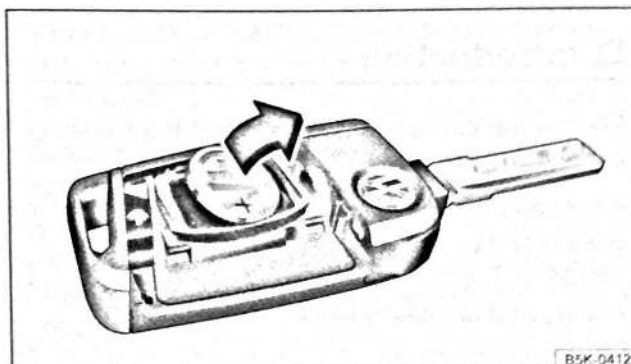

Fig. 26 Vehicle key: removing the battery
- Using a suitable thin object, lever the battery out of the battery compartment $\Rightarrow$ Fig. 26.
- Insert the new battery as shown $\Rightarrow$ Fig. 26 and push it into the battery compartment against the direction of the arrow $\Rightarrow$ .